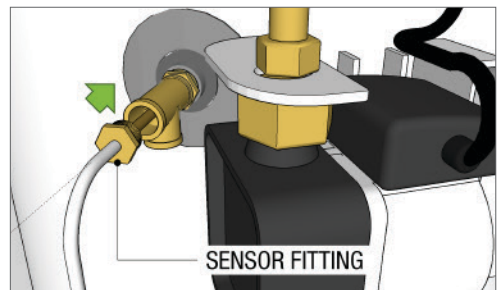
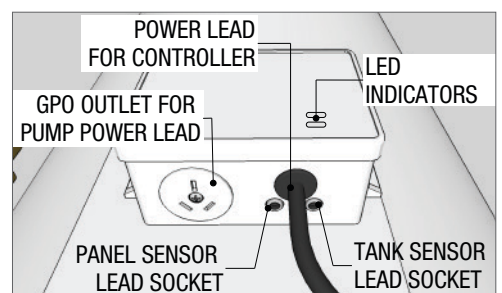

Fig 4
Fig 7
3. Fit the brass tee followed by the brass plug of the tank sensor lead (Fig 4) into the solar cold flow tank connection and plug it into the "Tank" socket under the controller (Fig 7)
6. Connect the collector sensor wire to the "Panel" socket under the controller (Fig 7)
7. Once tank is filled with water plug the pump power lead into GPO outlet on the base of the controller (Fig 7)
9. If the temperature at the collector is 7°C or greater, the "Tank" LED light on the controller will illuminate "green" (Fig 7)